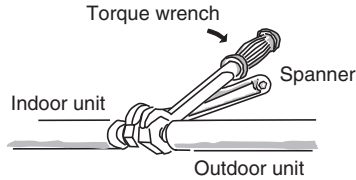

Fig. 5-6
- (1) Tightly connect the indoor-side refrigerant tubing extended from the wall with the outdoor-side tubing.
- (2) To fasten the flare nuts, apply specified torque (Fig. 5-6).
- When removing the flare nuts from the tubing connections, or when tightening them after connecting the tubing, be sure to use 2 adjustable wrenches or spanners. (Fig. 5-6)